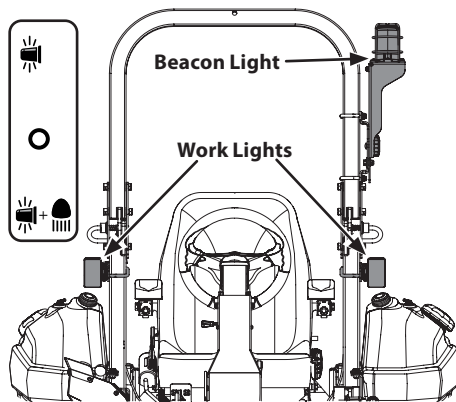

Figure 25
- Beacon Light and Work Lights ON (left position). See Figure 25.